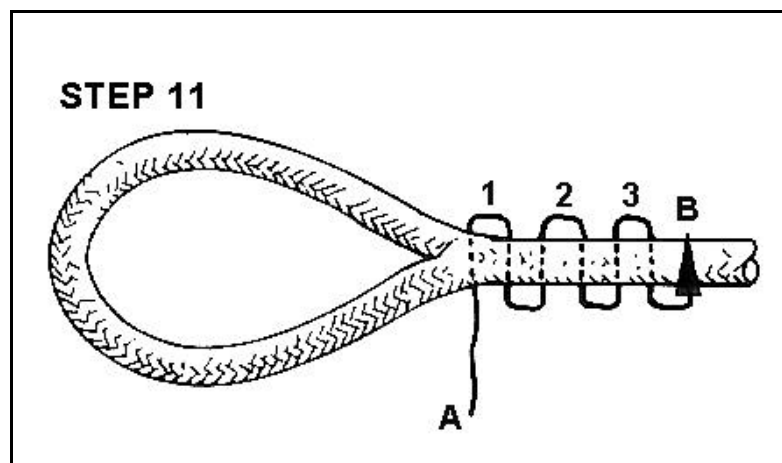

Figure 12-62. Continuing Lockstitching
- **STEP 11 -- Continue lockstitching.** Continue to reinsert as shown in Figure 12-62 until you have at least three complete stitches.